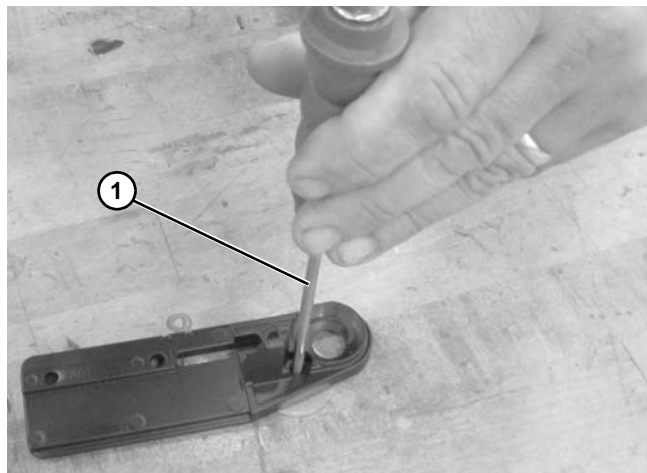
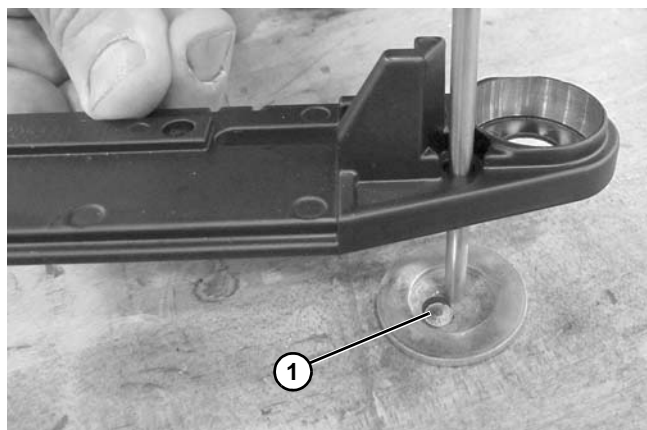

**Figure 140**
**Figure 141**
3. Use a hammer and punch (1/4" - 1/2" dia) (**Figure 140, item 1**) or long bolt to knock out slug (**Figure 141, item 1**) for shaft backing up tail plate with washer.